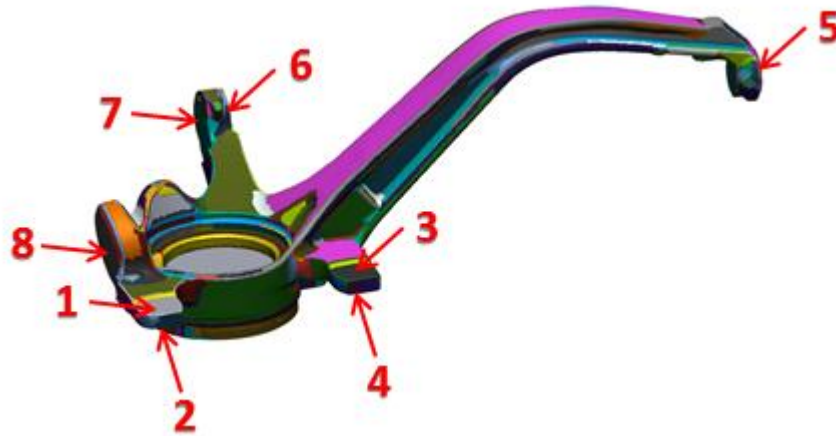

Figure 268
- Select ~8 regions while holding the **Shift** key (**Figure 268**).